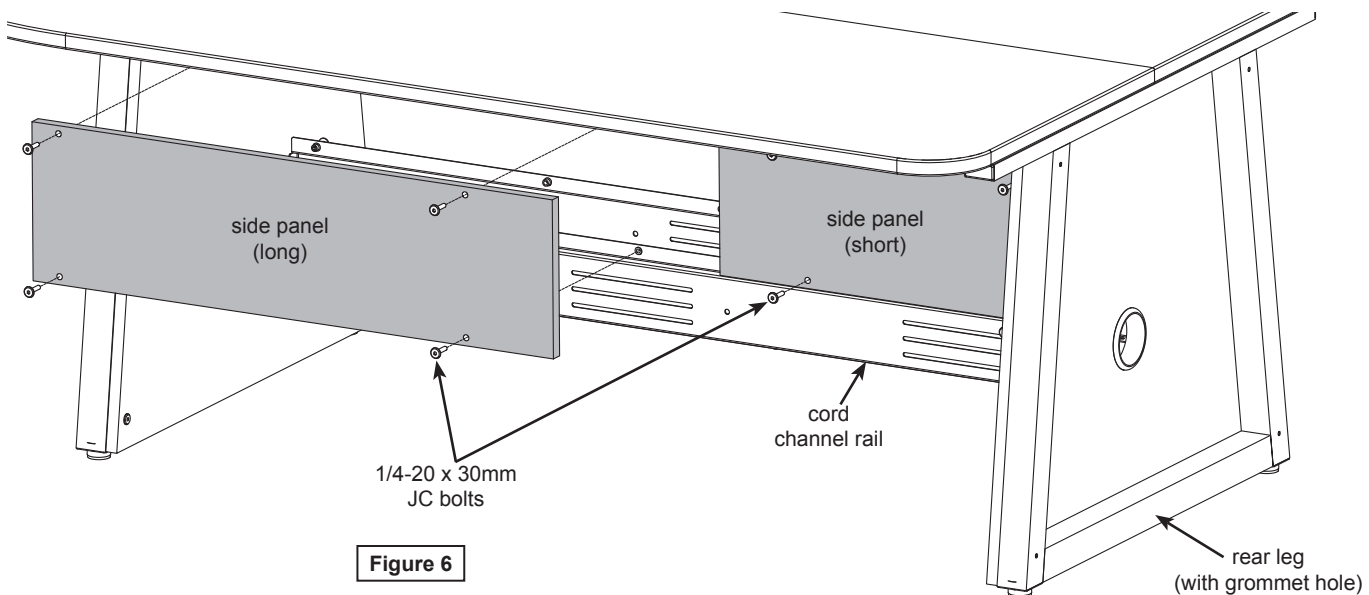

Figure 6
- A. Attach the short side panel to the cord channel rails toward the rear leg with (4) 1/4-20 x 30mm JC bolts. **Figure 6.**
B. Attach the long side panel to the cord channel rails toward the front leg with (4) 1/4-20 x 30mm JC bolts.